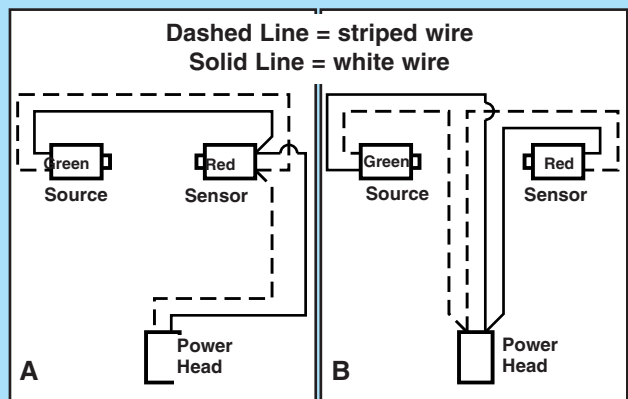

FIG. 3-5
- Route wire using either method shown (Fig. 3-5).